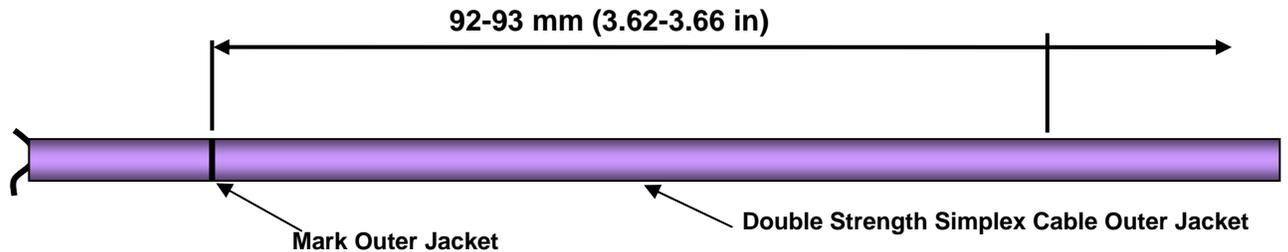

Figure 7-15 – Marking the Outer Jacket of the Double Strength Simplex Cable
- Step 1 - Mark the outer jacket of the double strength simplex cable jacket to 92-93mm (3.62-3.66 in). See Figure 7-15.